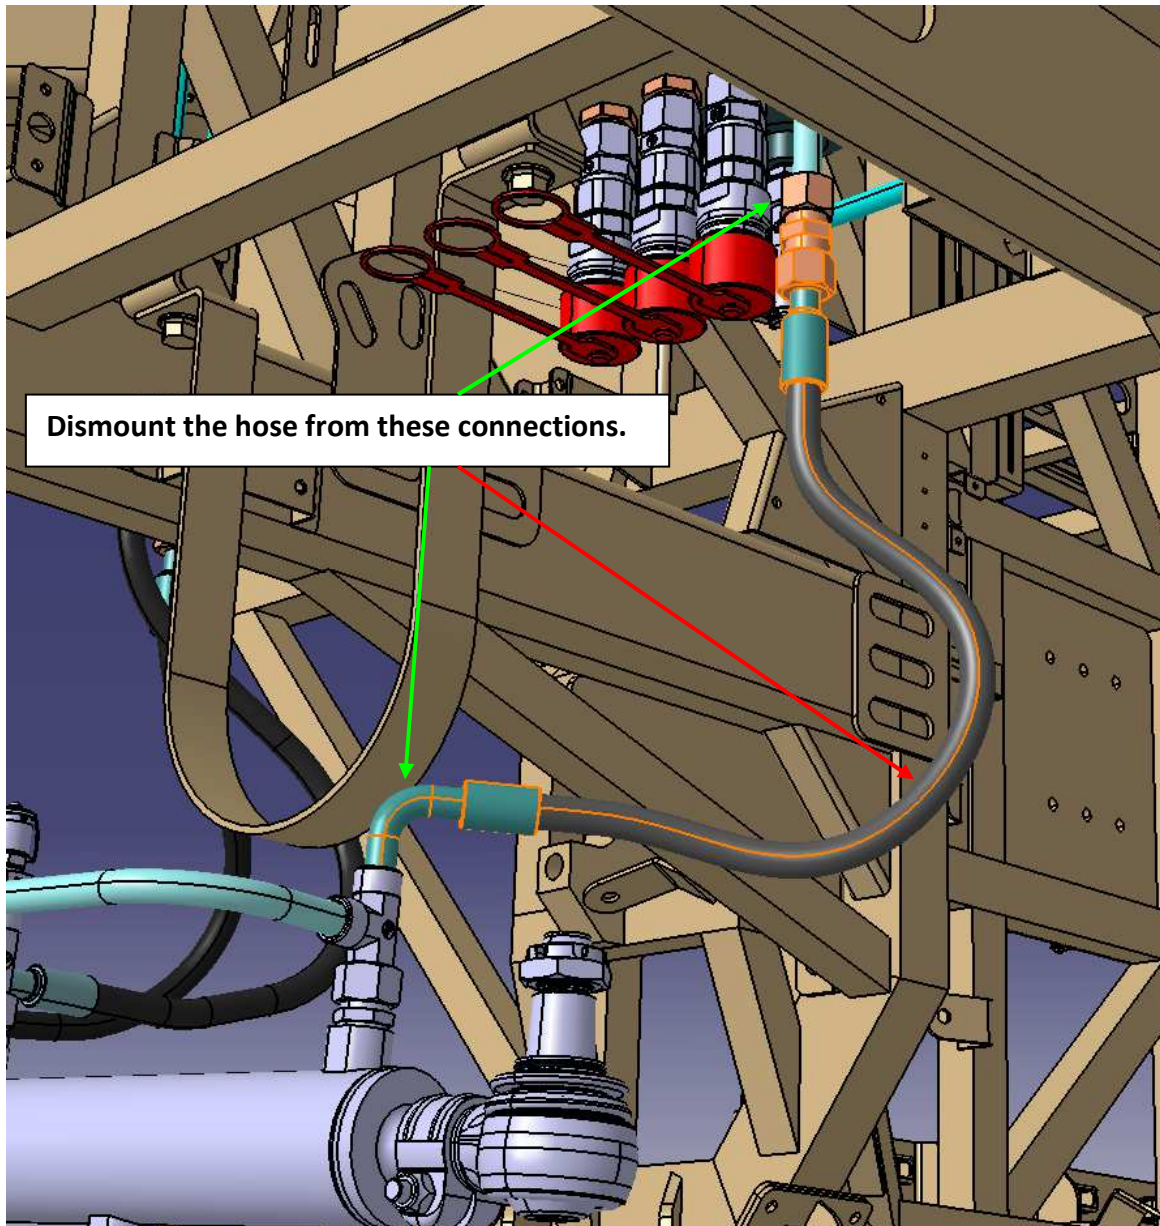

Figure-3
3. Dismount the 9630-06Y hose and 61102-90000-25 straight union then mount the 9630-34Y hose as replacement of these parts (see the Figure-3).